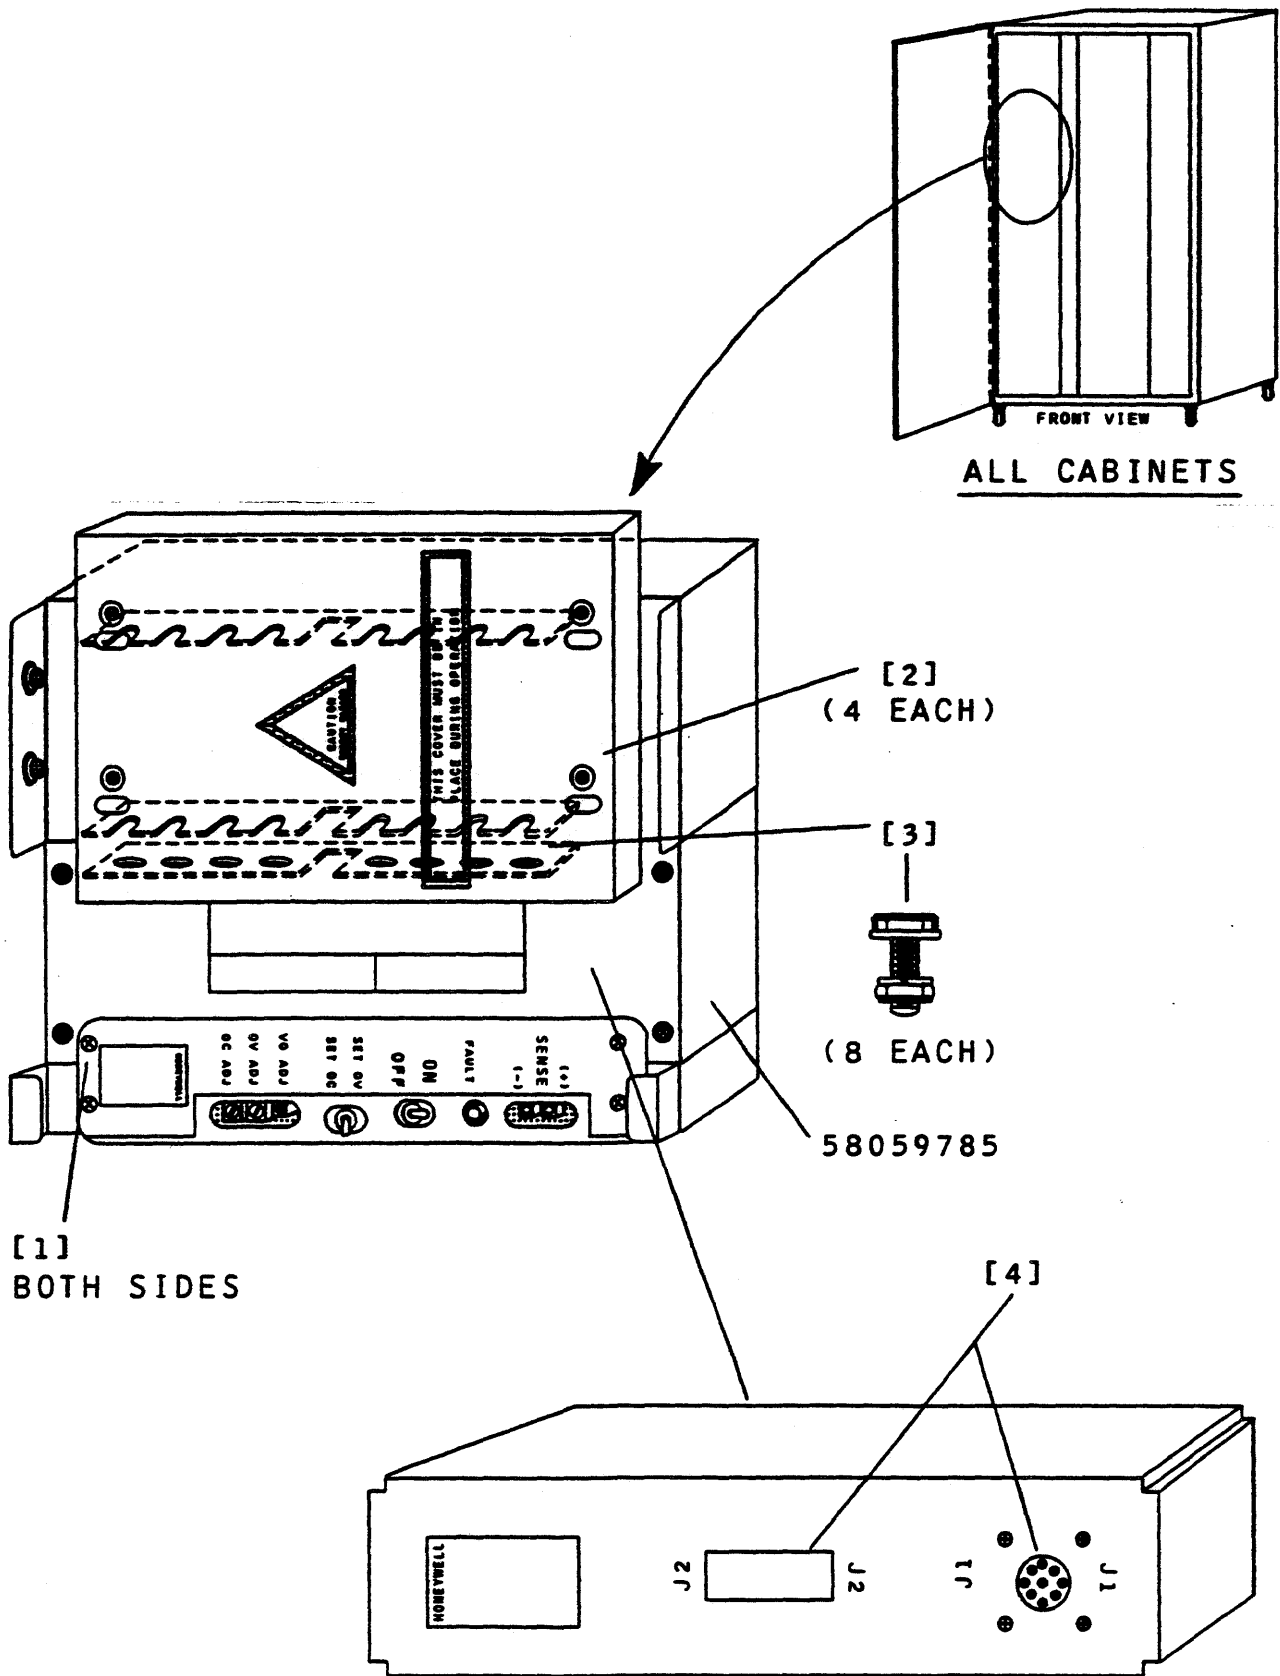

FIGURE 2.19-1. POWER REGULATOR MODULE REMOVAL/INSTALLATION
6. Using cross-tip screwdriver, remove Regulator Control module's front mounting strap (face plate) retaining hardware and remove strap (Figure 2.19-1, [1]).
7. Using cross-tip screwdriver, remove filter module's front electrical bus cover plate and retaining hardware (Figure 2.19-1, [2]).
8. Using open-end wrench and socket set, remove bus retaining hardware securing filter module to regulator (Figure 2.19-1, [3]).
9. Disconnect electrical harness plugs P1 and P2 from rear of regulator module (Figure 2.19-1, [4]).